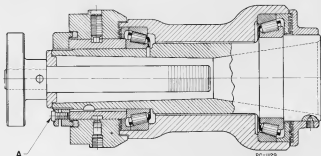

Figure 109A. Section Through the Workhead Spindle
Adjusting the Workhead Spindle Bearings. An adjusting nut for this operation will be found at the rear end of the spindle, (Figure 109A). Proceed in the following manner:
1. Loosen screw "A" (Figure 109A) through the adjusting nut. There are three of these screws.